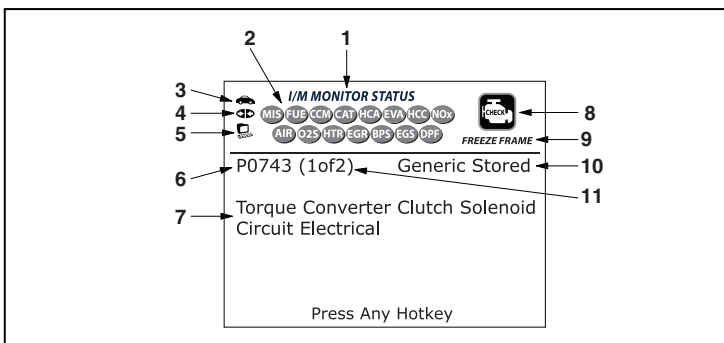

Figure 2. Display Functions
See Figure 2 for the locations of items 1 through 11, below.